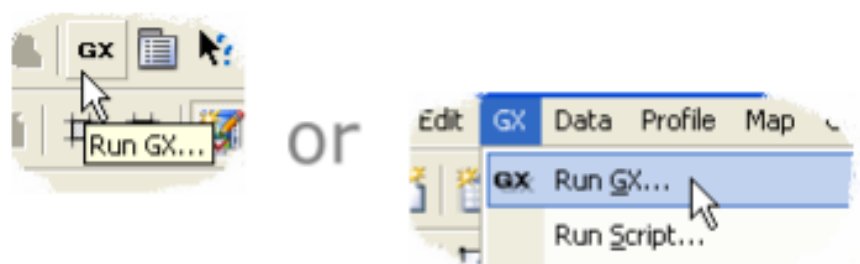

Figure 1.122 – A snapshot of running of Geosoft GXs
The Geosoft executable (GX) is the basic mechanism through which Geosoft provides the basic resources for all Geosoft Applications and Tools, fig. 1.122. GXs are programmed processes that are attached to the main menus in the system and to the special menus used in application suites. GXs run interactively in the graphical user interface but many GXs can also run in batch mode (using script commands).